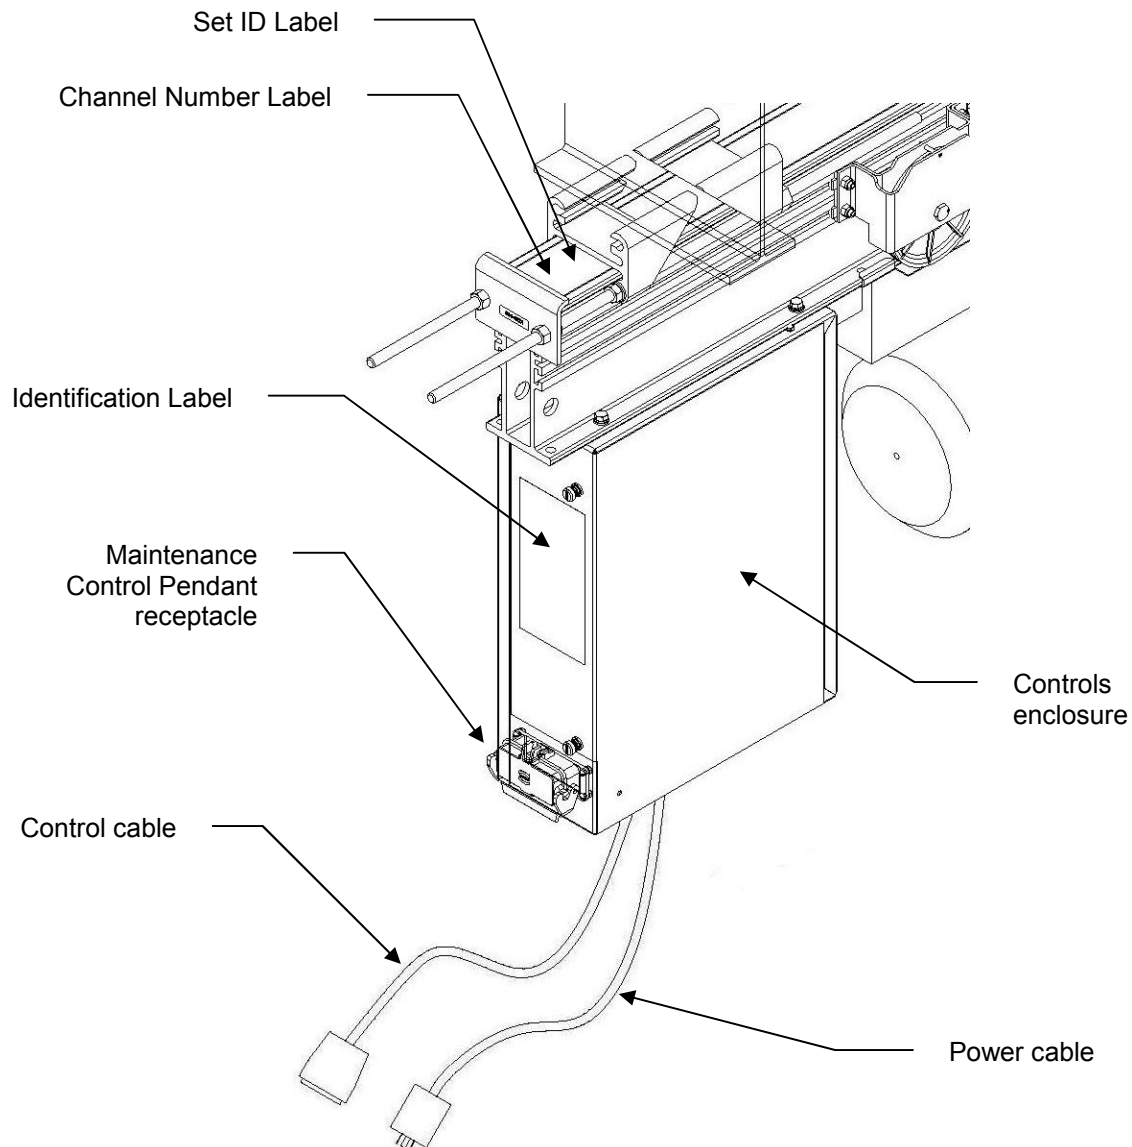

Figure 10: Power and Control Connections
- Each hoist features separate electrical connections for power and control. See Figure 10. Each of these must be plugged into hard-wired receptacles that match the particular motor voltage and control scheme of your system.